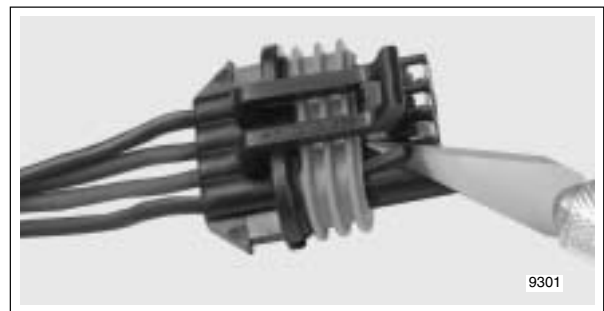

Figure B-18. Gently Pry Away Tang
4. Using a thin flat blade, like the unsharpened edge on an X-Acto knife, gently pry tang outward away from terminal, and then tug on wire to back terminal out wire end of chamber. Do not pull on wire until tang is released or terminal will be difficult to remove. See Figure B-18.